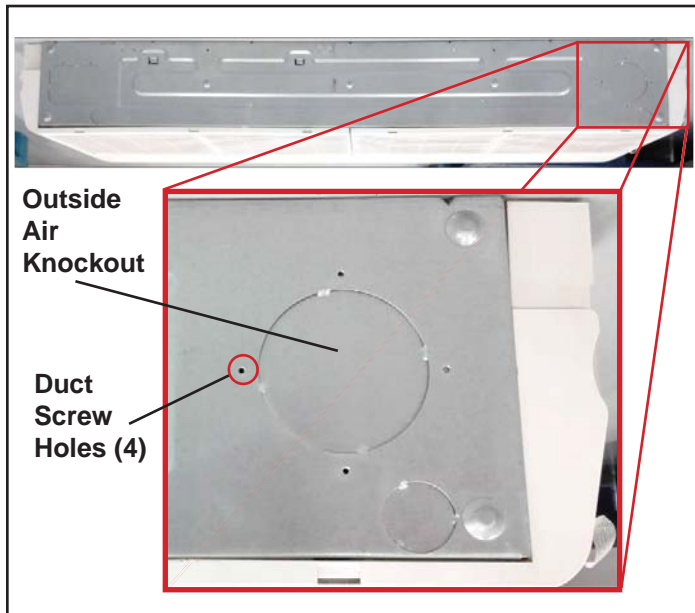

Figure 18. Typical Outside Air Knockout
1. Knock out the outside air supply opening. See figure 18.
3. Connect the outside air duct to cassette body using the four screw holes shown in figure 18.